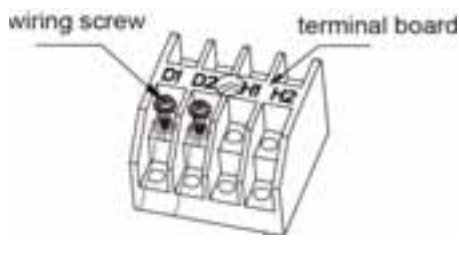

Fig 5.3.1
- (1) Detach the electric box lid.
- (2) Lead the Communication cable through the wiring holes.
- (3) Connect the communication wire to terminal D1 and D2 of indoor 4-bit wiring board, as shown in Fig. 5.3.1.